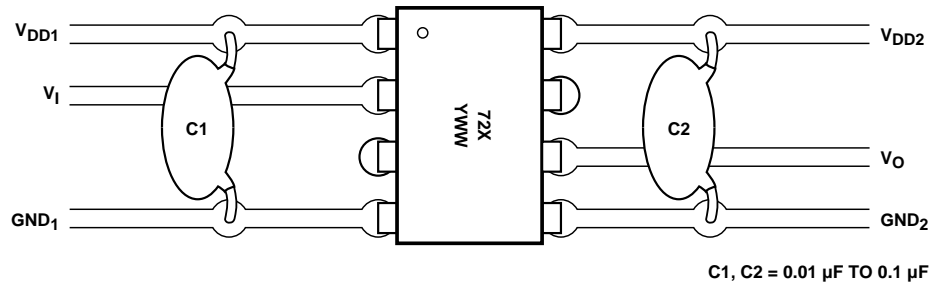

Figure 11. Recommended Printed Circuit Board Layout.
0.1 μF . For each capacitor, the total lead length between both ends of the capacitor and the power-supply pins should not exceed 20 mm. Figure 11 illustrates the recommended printed circuit board layout for the HCPL-772X/072X.